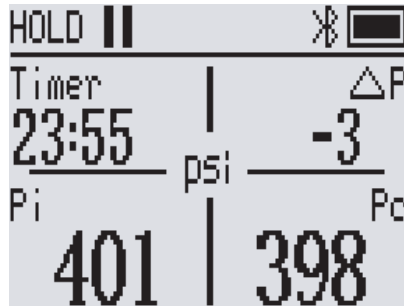

Figure 3 Pressure hold start interface
5. Start leak test : click after the device reaches  the pressure warning value to start the leak test , and the timer starts counting down (Figure 3) .